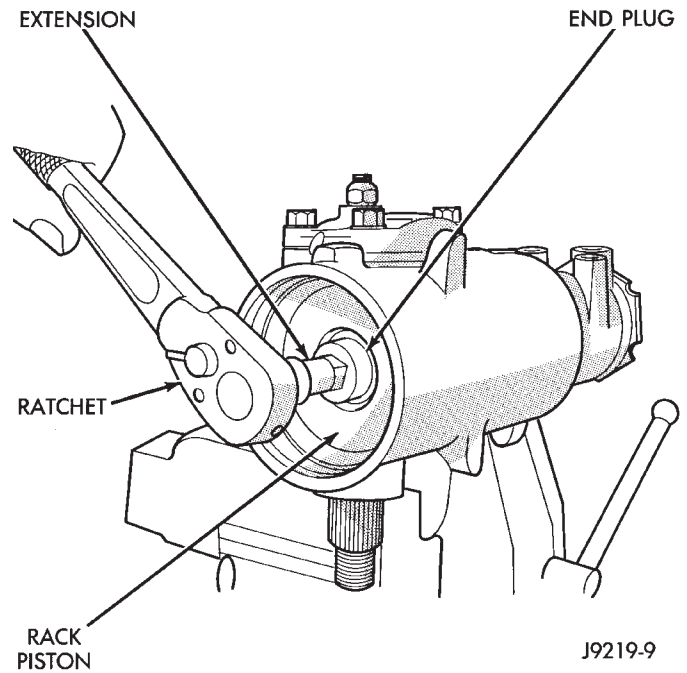
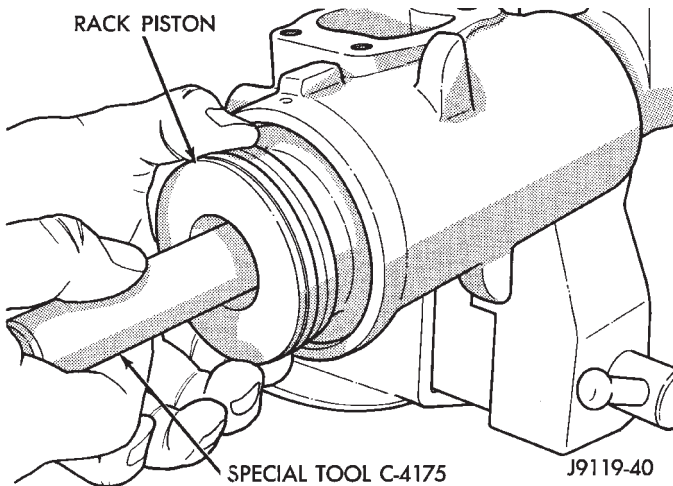
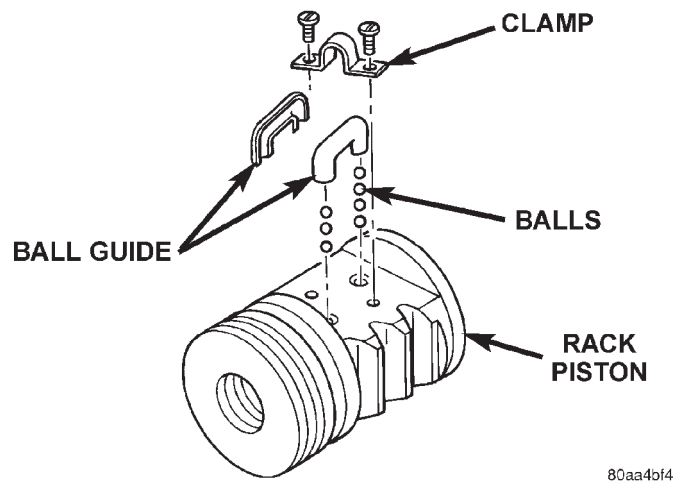

Fig. 17 Rack Piston End Plug
Fig. 18 Rack Piston with Arbor
Fig. 19 Rack Piston
- (1) Remove housing end plug.
- (2) Remove rack piston plug (Fig. 17).
- (3) Remove side cover and pitman shaft.
- (4) Turn stub shaft **COUNTERCLOCKWISE** until the rack piston begins to come out of the housing.
- (5) Insert Arbor C-4175 into bore of rack piston (Fig. 18) and hold tool tightly against worm shaft.
- (6) Turn the stub shaft with a 12 point socket **COUNTERCLOCKWISE**, this will force the rack piston onto the tool and hold the rack piston balls in place.
- (7) Remove the rack piston and tool together from housing.
- (8) Remove tool from rack piston.
- (9) Remove rack piston balls.
- (10) Remove clamp bolts, clamp and ball guide (Fig. 19).